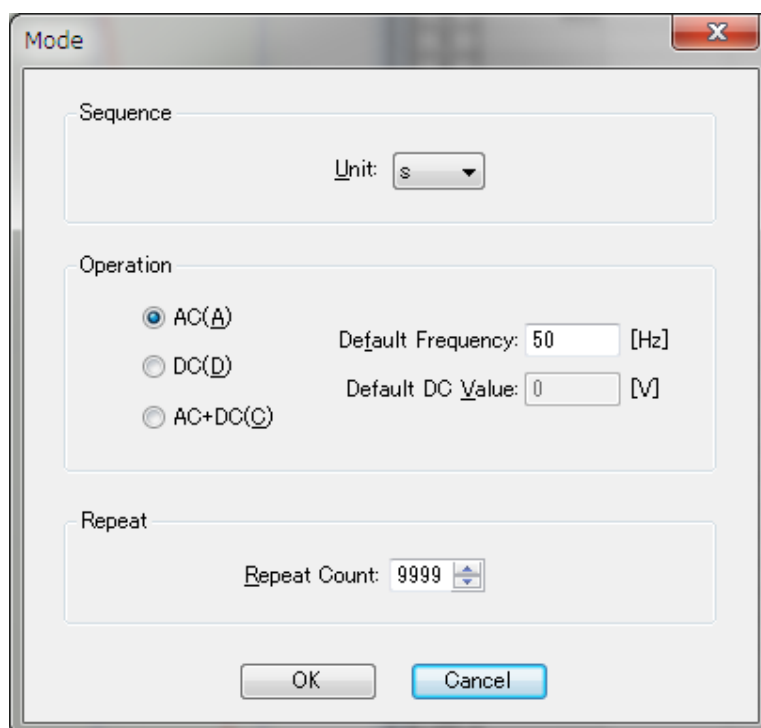

Fig. 5-1 Setting the Mode
Select [Mode] from the [Sequence] menu. The [Mode] dialog appears (Fig. 5-1).
* Frequency is the default frequency value (Fig. 5-1).